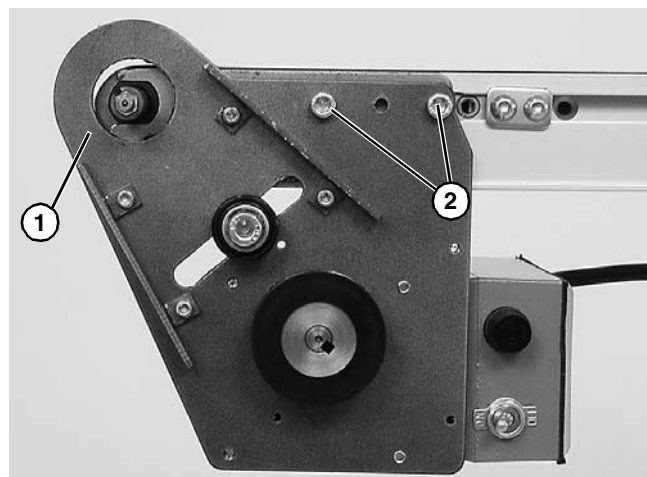

Figure 11
5. Attach mount assembly (**Figure 11, item 1**) with screws (**Figure 11, item 2**). Tighten screws to 80 in-lb (9 Nm).